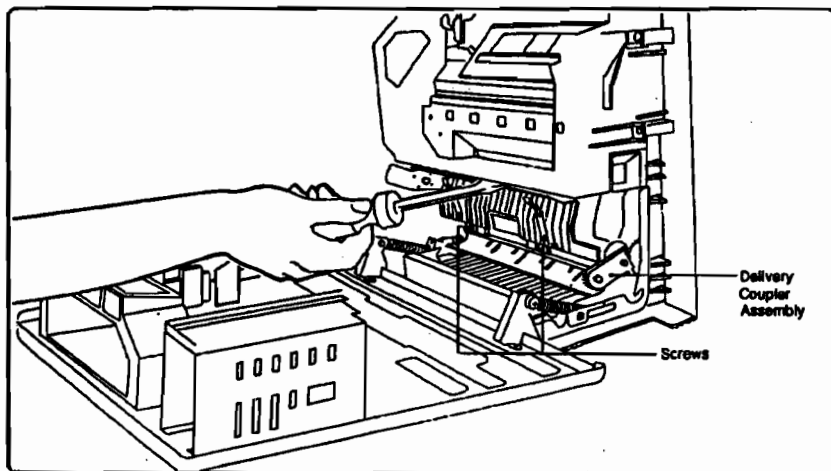

Figure 6-54. Fuser Insulating Cover Removal
3. Remove the black-plastic Fuser Insulating Cover screws (the 2 smaller brass-colored pan-head screws with washers) (see Figure 6-54).
4. Insert a small flat-blade screwdriver between the cover and the EP-S Cartridge Guide frame as shown in Figure 6-54. Pry the plastic clips away from the cover to release it.